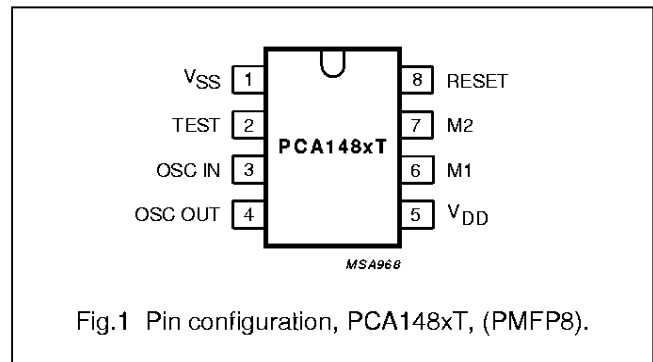

Fig.1 Pin configuration, PCA148xT, (PMFP8).
1. Figure 1 and Chapter "Package outline" show details of standard package, available for large orders only. Chapter "Chip dimensions and bonding pad locations" shows exact pad locations for other delivery formats.